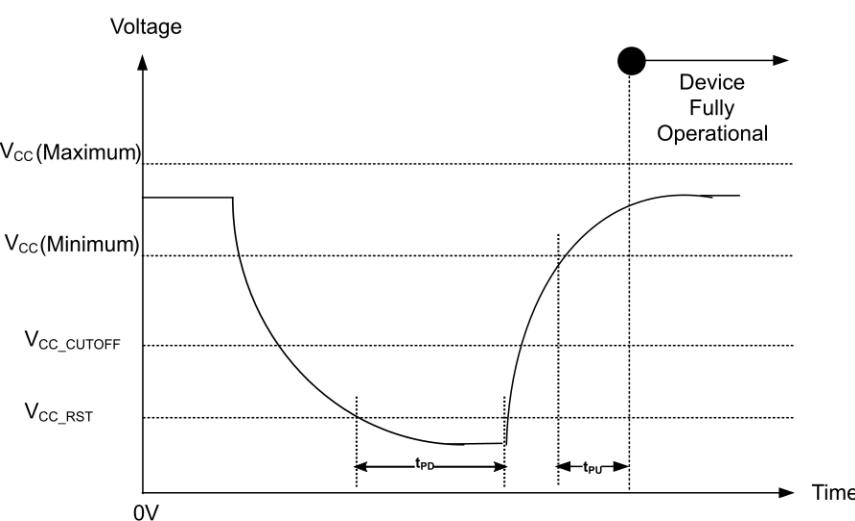

Figure 6: Power-Down Behavior
- During Power-up, recovering from power loss or brownout, a delay of tPU is required before normal operation commences (Figure 6).